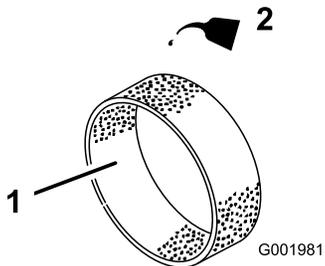

Figure 41
- Put 30 to 59 ml (1 to 2 fl oz) of oil on the element (Figure 41).